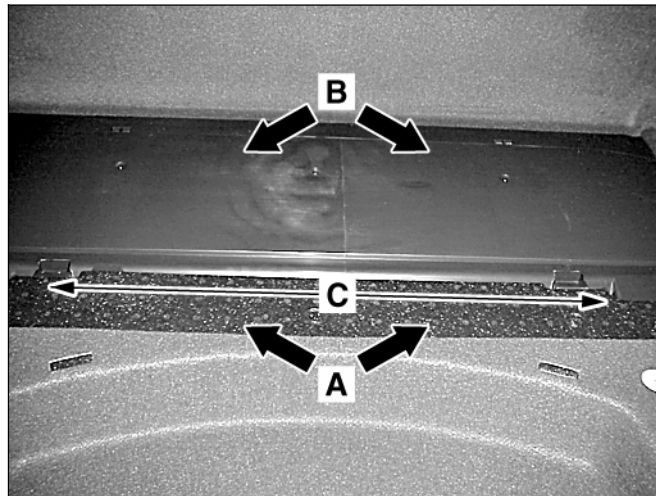

Figure 1
1. Open the trunk and remove the vapor barrier by lifting it off the trunk well liner (A, Figure 1).
2. Remove the carrier plate cover (B, Figure 1) by removing the two screws securing it (C, Figure 1)—the screws, located under the vapor barrier, are not visible in Figure 1).